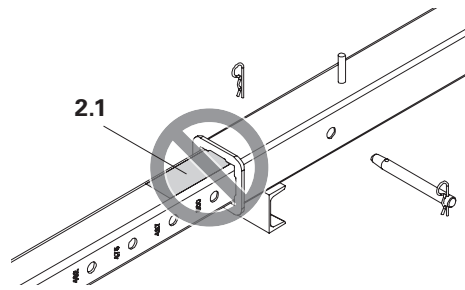

Fig. 12
- The red marking (2.1) on the inner tube is the limit of the extension length! (Fig. 12)
1. Remove cotter pin (1.2) and positioning pin (1.1). (Fig. 12)
2. Move inner tube (2) and adjust to required dimension.